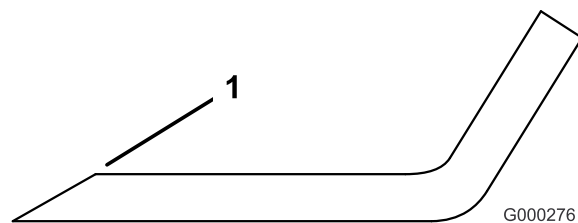

Figure 80
1. Use a file to sharpen the cutting edge at both ends of the blade (Figure 80). Maintain the original angle. The blade retains its balance if the same amount of material is removed from both cutting edges.